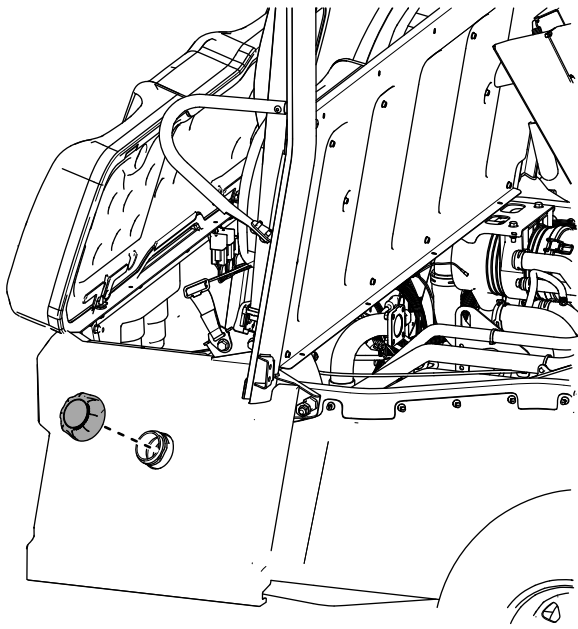

Figure 60
33. Install the fuel-tank cap to the left, rear seat-base panel (Figure 60).